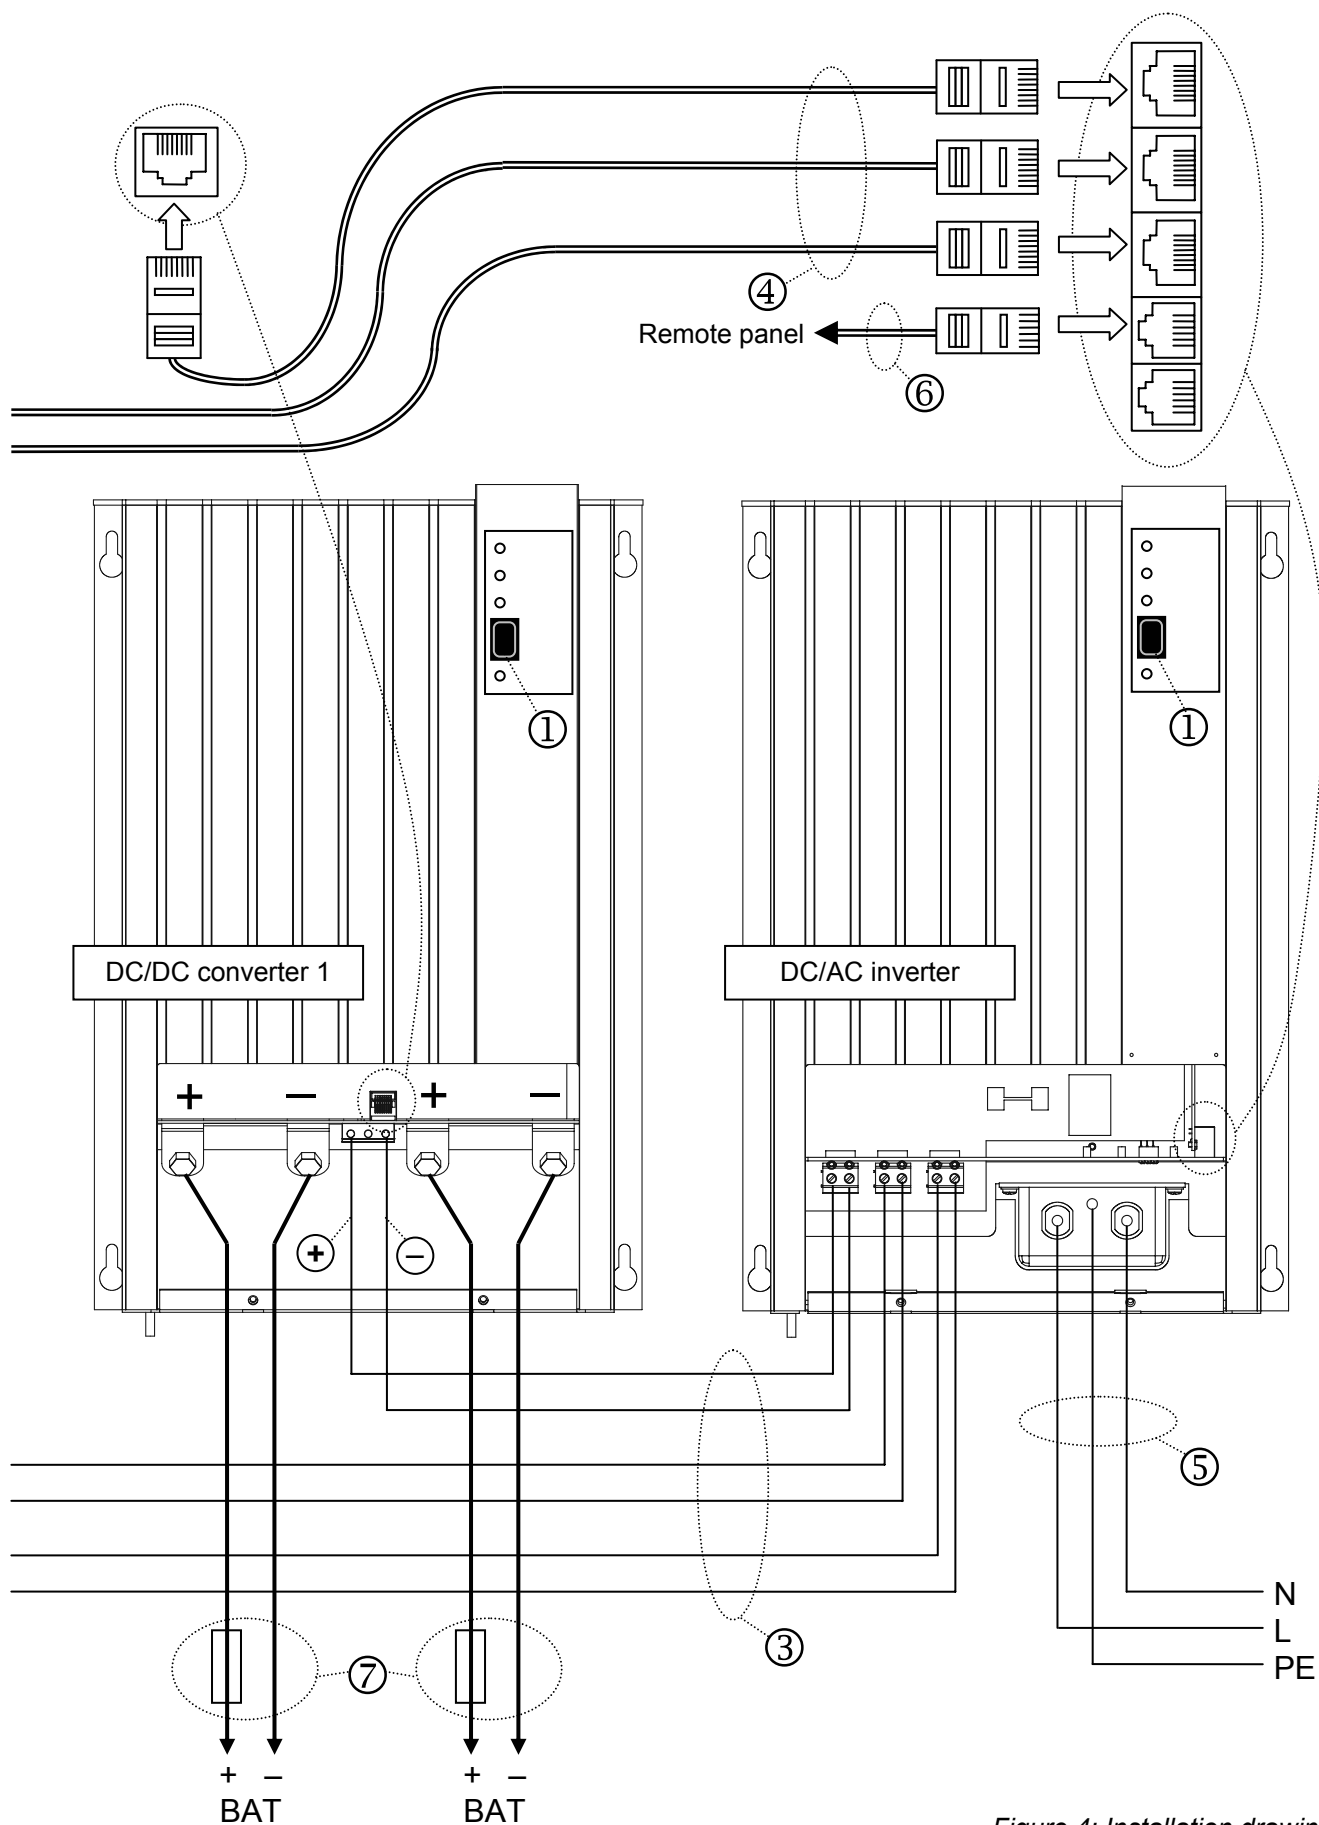

Figure 4: Installation drawing
- 1 See figure 4, references ①. Move all ON/OFF/ REMOTE switches of the DC/DC-converters and the DC/AC-inverter to the "OFF"-position.
- 3 Run the double insulated wires 4mm²/AWG 11 between DC-output(s) of the DC/DC-converters and the input(s) of the DC/AC-inverter. Strip the wire ends over 10 mm. Connect the cabling to the screw connectors according to figure 4, reference ③. The red cables on the plus (+) connections, the black cables on the minus (-) connections.
- 4 Run the modular 8-pole communication cables between the DC/DC-converters and the DC/AC-inverter. Connect these cables according to figure 4, reference ④.
- 5 See figure 4, reference ⑤. Run the AC wiring between the AC output of the DC/AC-inverter and the input of the AC-distribution. Feed the wiring through the cable glands of the cabinet, and then fix the cable lugs M6 to the wires ends. Connect the wiring according to figure 4. Fix the brown phase line wire to terminal L1, the blue neutral wire to terminal N and the green/yellow wire to terminal PE.
- 6 See figure 4, reference ⑥. If a remote panel is applied, run a communication cable between the DC/AC-inverter and the remote control panel (RI).
- 7 See figure 4, references ⑦. Run the DC-cables 50mm²/AWG 0 between the DC-distribution and the DC/DC-converters. Feed the cables through the cable glands of the cabinet, and then fix the cable lugs M8 to the wire ends. Integrate a fuse holder in each plus (red) cable. Do not install the DC-fuses in the fuse holders before the entire installation is completed (see chapter 5.5, "Commissioning after installation"). Connect the red cables to the plus-connections, the black cables to the minus connections.
- 9 See figure 4. Check all wiring and connections.
- 2 First the battery connections of all inverters are checked one by one. Keep the ON/OFF/ REMOTE switch of the DC/AC inverter in the "OFF"-position. Start with DC/DC converter 1 (see figure 4)
- 4 Now the installation of the modular communication cables is checked one by one. First move the ON/OFF/ REMOTE switch of the DC/AC-inverter to the "ON"-position. Keep the ON/OFF/ REMOTE switches of all DC/DC converters in the "OFF"-position. Commence with DC/DC converter 1 (see figure 4)
- 1 See figure 4, references ①. Move the ON/OFF/ REMOTE switches of both the DC/DC-converters and the DC/AC-inverter to the "OFF"-position.